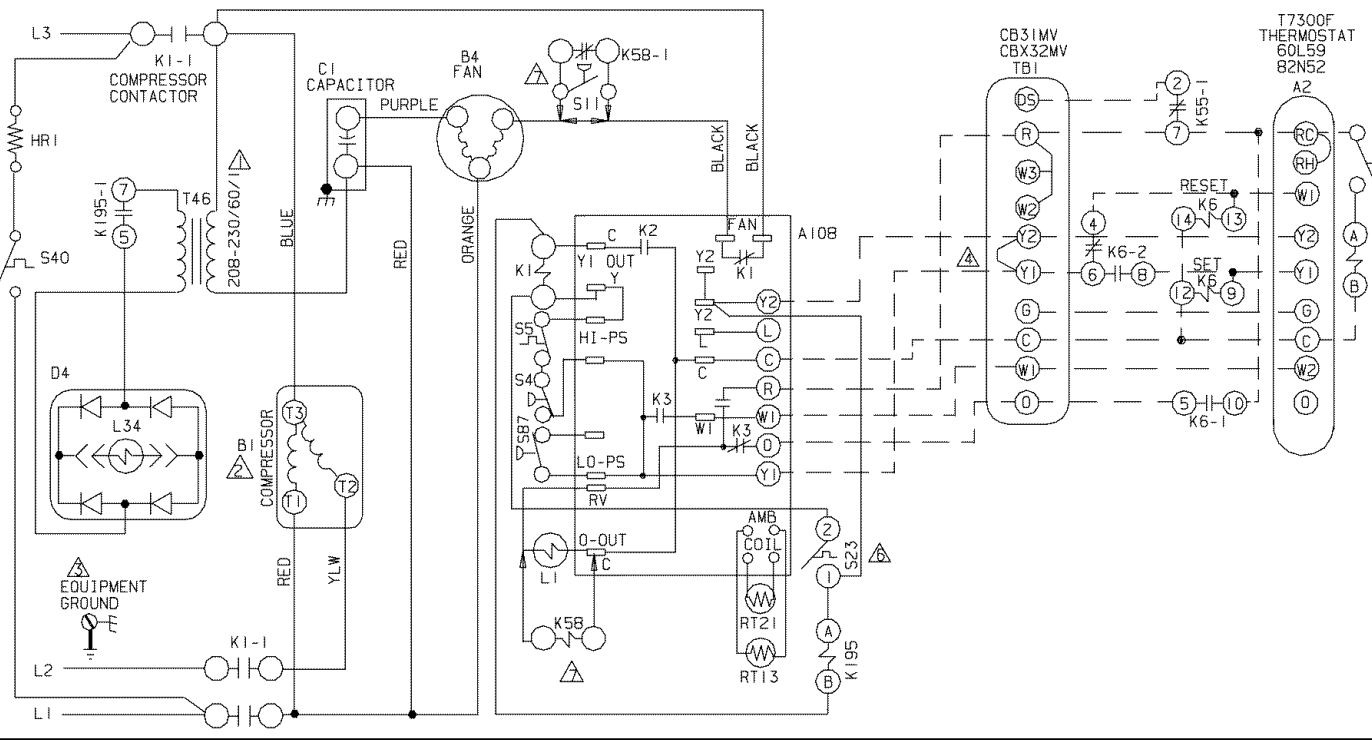

Figure 7
4. Install low voltage wiring from outdoor to indoor unit and from thermostat to indoor unit. See figure 7.